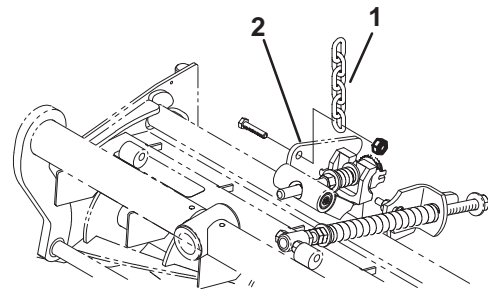

Figure 5
- Remove nut securing turf compensation spring mounting bracket to cutting unit stabilizer ear (Fig. 5). Insert tipper chain onto capscrew and secure with nut removed.